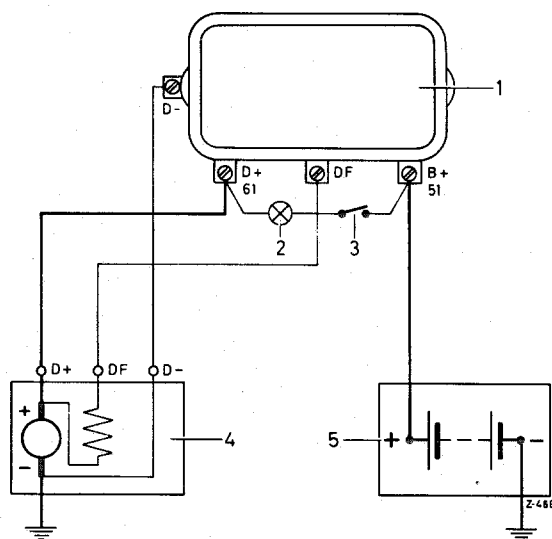

Fig. 15—16/1
1. Hold the positive lead of a voltmeter on the terminal B + (51) at the regulator and the negative lead on ground and check whether the rated voltage of the battery is shown (Fig. 15—16/1).
1. Connect up a voltmeter between the terminal D + (61) and the terminal D— at the regulator (see. Fig. 15—16/1).
2. Disconnect the red cable (Lead No. 54, Cable Sheaf 85) of the Main Wiring Harness from the terminal B + (51) at the regulator and connect a suitable ammeter between the terminal 51 and the cable (see Fig. 15—16/1).